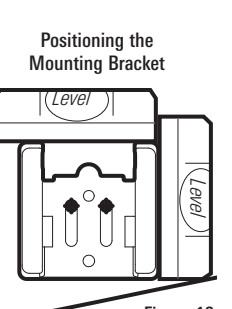
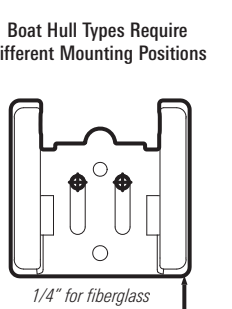

Figure 18
Figure 19
2. Hold the mounting bracket against the transom of the boat in the location you have selected (Figure 18). Align the bracket horizontally, using the level. Make sure that the lower corner of the bracket does not protrude past the bottom of the hull, and there is at least 1/4" clearance between the bottom of the bracket and the bottom of the transom for fiberglass boats, and 1/8" clearance for aluminum boats (Figure 19).